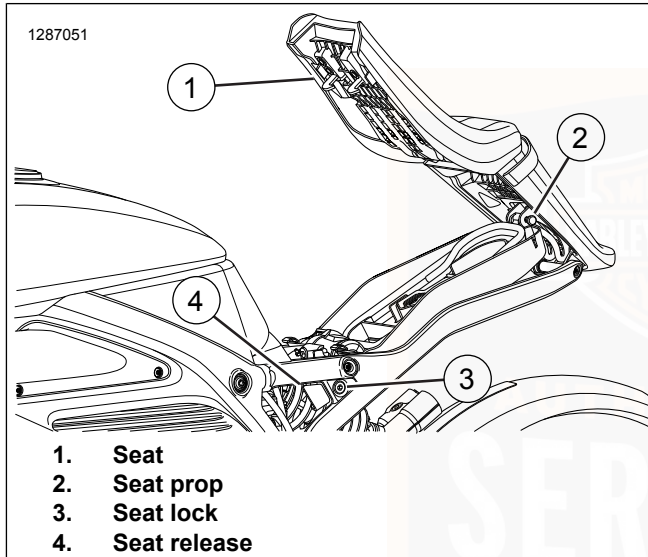

Figure 47. Seat
1. See Figure 47. Unlock seat.
- a. Insert key into seat lock (3) and turn counterclockwise.
2. Pull seat release lever (4) and lift front of seat (1).